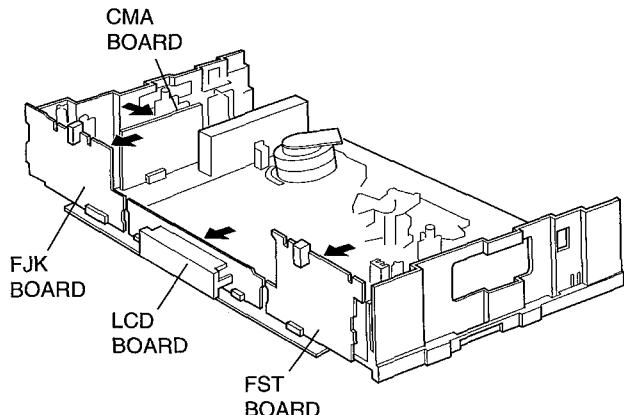

Fig. 2
**2. Servicing positions when repairing and checking circuits****2-1. Procedure to set the FJK, LCD, FST and CMA boards to the servicing positions (Fig. 2)**